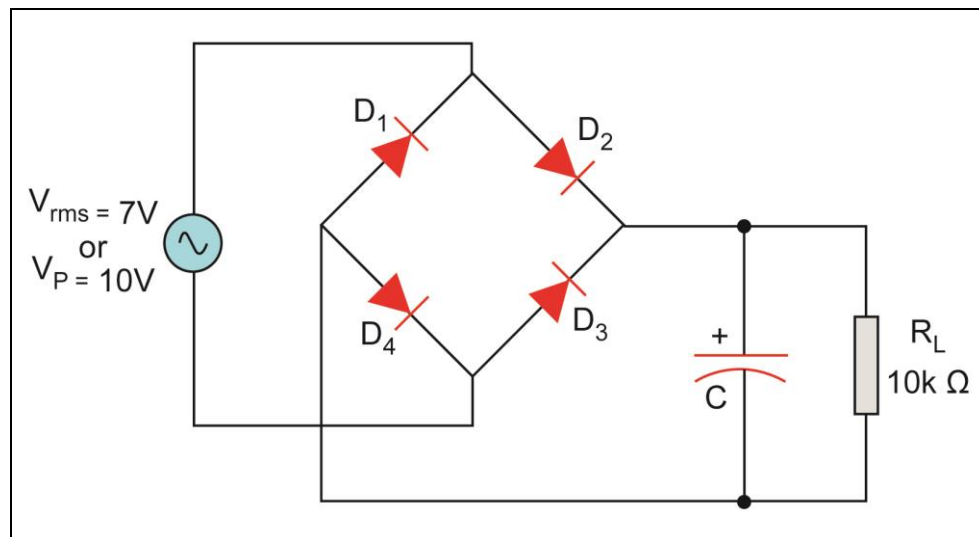

Fig. 2-3 Full Wave Rectifier
7. Turn off the power supply and reconnect the full wave rectifier circuit of Fig. 2-3 without capacitor and adjust the output of the trainer by the multi-meter to be 7V (r.m.s). Measure these value on the Oscilloscope you should found 10V as peak value. Connect the ground lead of the oscilloscope to point B in the circuit. Connect CH 1 scope probe to the cathode end of the diode to measure the input AC. Connect CH 2 to point A to measure the output DC.